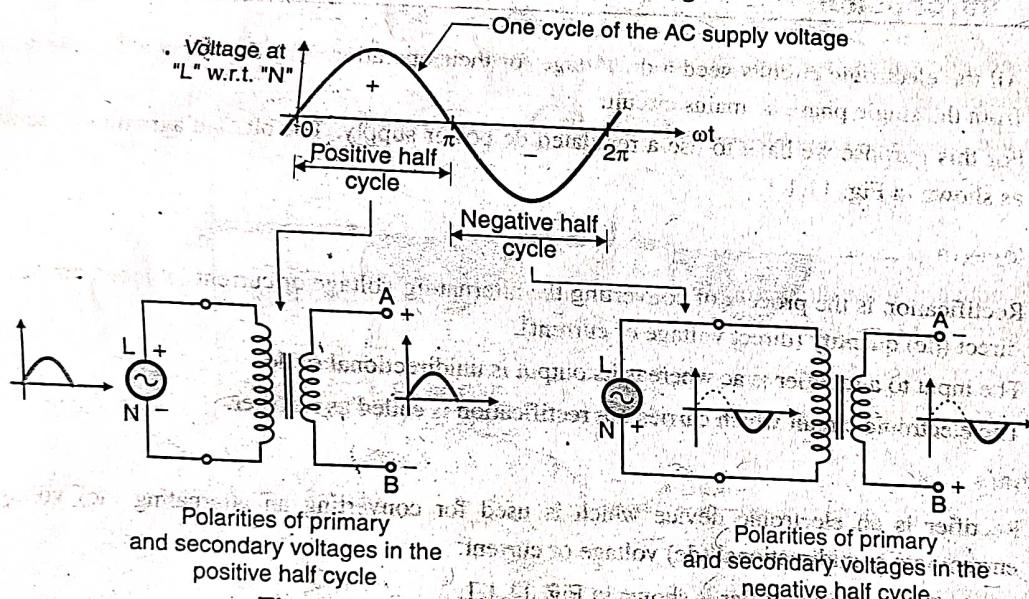

Fig. 11.1.2 : Polarities of transformer voltages
- The primary of a transformer is connected to the single phase ac supply available from MSEB. This supply voltage has two terminals namely Live and Neutral. And the voltage at the live terminal with respect to neutral is sinusoidal as shown in Fig. 11.1.2.
- The positive half cycle extends from $\omega t = 0$ to π radians. In this half cycle "live (L)" is positive with respect to "neutral (N)" and the secondary voltage V_{AB} is positive.
- The negative half cycle extends from $\omega t = \pi$ to 2π radians. "L" is negative with respect to "N" and the secondary voltage V_{AB} is negative, as shown in Fig. 11.1.2.